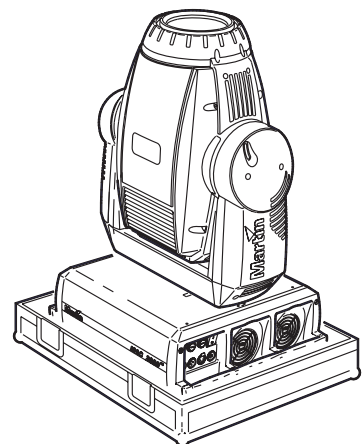

Figure 2: Single unit transport position
- 2 Lock the head and yoke in the position shown in Figure 2.